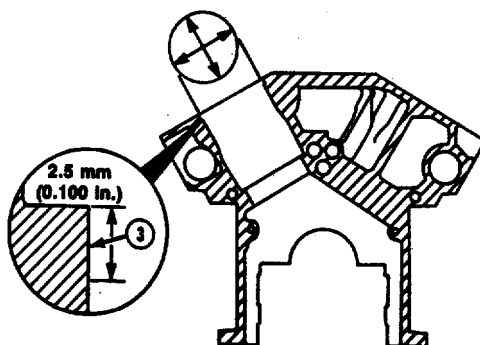

FIGURE 4-84. Lower Counterbore Measurement.
- (5) Measure inside diameter of lower counterbore (3, FIG. 4-84). The point of measurement must be within 0.100 inch (2.5 mm) from the top of the counterbore ledge. Verify measurement is within specifications in Table 4-8 . Verify lower counterbore is round within 0.001 inch (0.025 mm).